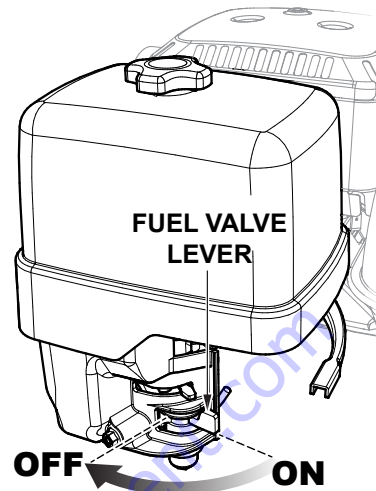

Figure 48. Fuel Valve Lever (Closed)
4. Place the fuel valve lever in the **CLOSED** position (Figure 48).